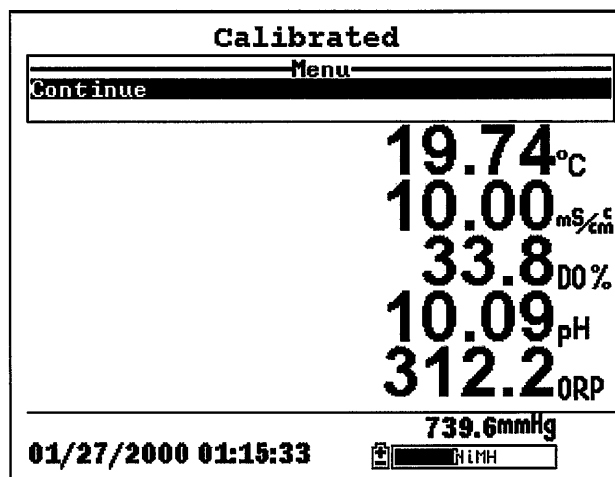

Figure 6.6 Calibrated
9. Observe the reading under DO %. When the reading shows no significant change for approximately 30 seconds, press **Enter**. The screen will indicate that the calibration has been accepted and prompt you to press **Enter** again to Continue. See Figure 6.6 Calibrated.